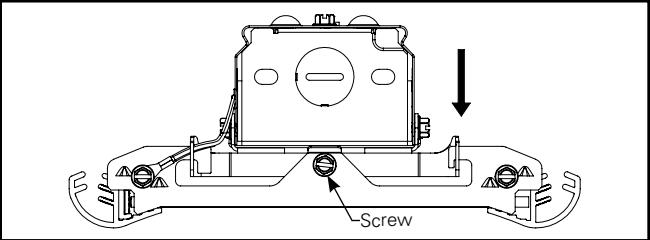

Figure 5.4.
- D. Place the thinner tab end inside the groove in driver hinge bracket (Figure 5.4).